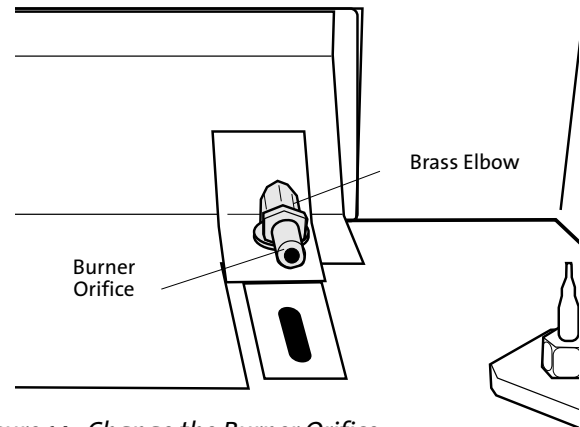

Figure 14. Change the Burner Orifice.
8. Change the Burner Orifice. Using a 1/2" open ended wrench or deep-well socket, remove the burner orifice from its brass elbow housing and replace with the appropriate orifice supplied in the kit. See fig. 14.
10. Replace the Burner Plate. Engage the burner tube with the Air Shutter assembly as in fig. 14. Be sure the burner is securely engaged with the two support brackets at the front of the firebox and push the plate back toward the rear of the firebox.